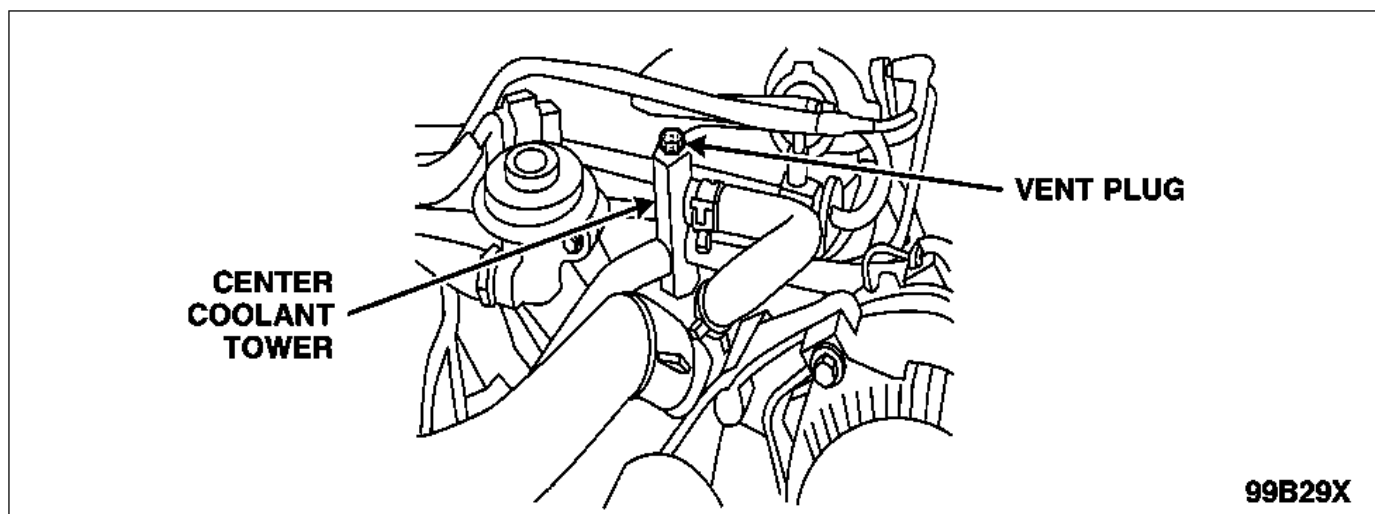

FIGURE 24
- The vent plug must be removed from the center coolant tower before the radiator is filled or the engine may not fill completely. See Figure 24.